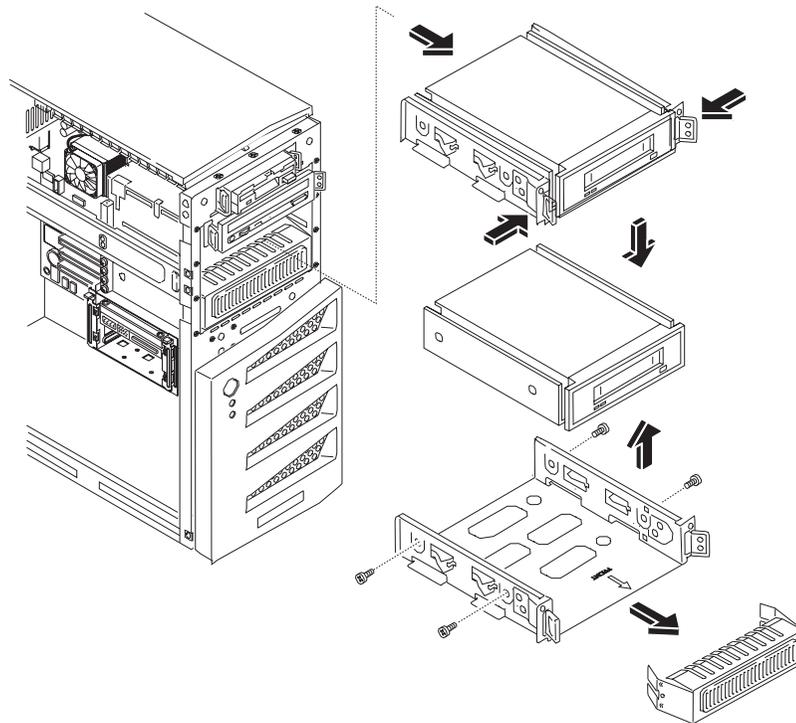

Figure 3-11. Installing the Optional Backup Tape Drive
5. Press in on both tab latches to release the third drive tray and pull it out at the same time. See Figure 3-11.
6. Remove the RFI shield from the third drive tray. See Figure 3-11.
- a. Place it into the tray and use the screws provided to secure it to the tray. See Figure 3-11.